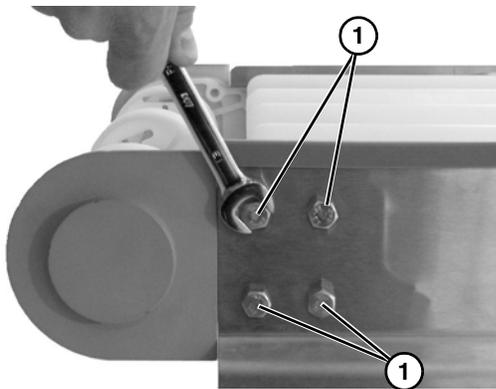

Figure 45
2. Remove four head plate bolts (Figure 45, item 1). Repeat on opposite side.